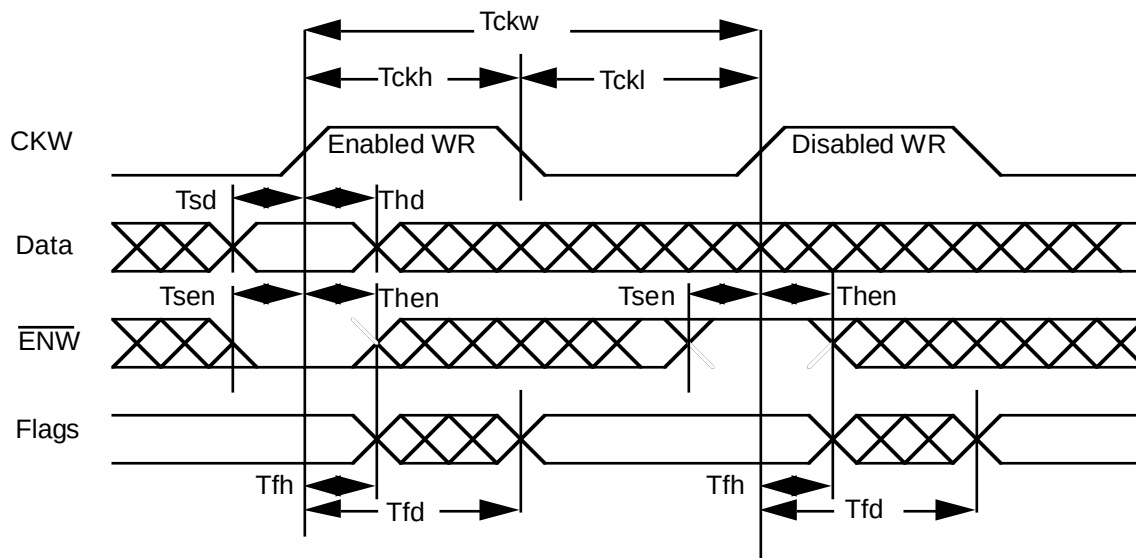

Figure 1. Write Timing
- (1) Test conditions: input switching levels $V_{IL}/V_{IH}=0.5V/V_{DD}-0.5V$ (CMOS), $V_{IL}/V_{IH}=0V/3V$ (TTL), input rise and fall times $<1\text{ ns/V}$, input and output timing reference levels shown in the Tester AC Timing characteristics Table, capacitive output loading $C_L=50\text{ pF}$. For $C_L > 50\text{ pF}$, derate access times by 0.02 ns/pF (typical).
- (2) Worst case operating conditions: $V_{DD}=4.5V$ to $5.5V$, $TC=-55^\circ\text{C}$ to $+125^\circ\text{C}$, post total dose at 25°C .
- (3) For flag updates, $tskew1$ is the minimum time an opposite clock can occur after a clock and still not be included in the current clock cycle. At less than $tskew1$, inclusion of the opposite clock is arbitrary.
- (4) For flag updates, $tskew2$ is the minimum time an opposite clock can occur before a clock and still be included in the current clock cycle. At less than $tskew2$, inclusion of the opposite clock is arbitrary.
- (5) Timing parameters are defined in Figures 1 through 6.